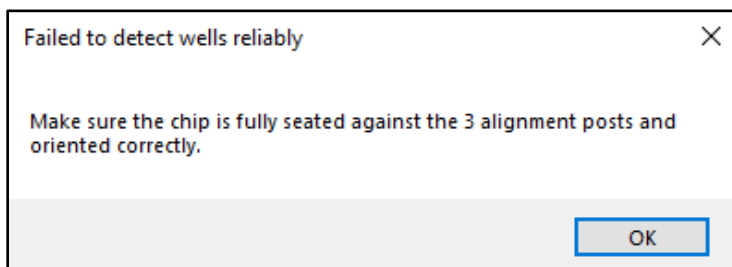

Figure 75. Pop-up message if a problem is detected during the chip scan.
- Occasionally, if the chip is not inserted correctly, the software will prompt the user to make sure that the chip is fully seated against the three alignment posts and oriented correctly (Figure 75).